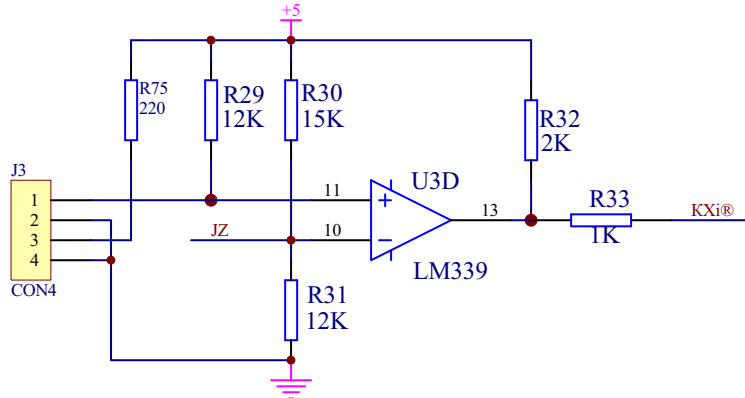

Fig.22A Stacker Sensor Circuit Diagram
(1) OLD PRO85,PRO85U Circuit (Fig.22A)